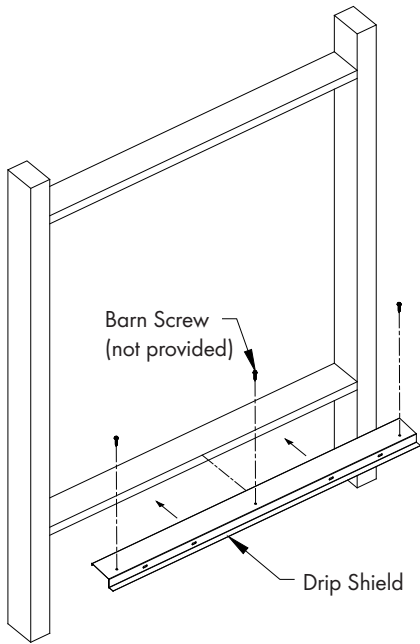

Figure 9A
Attach Drip Shield to bottom of framed opening using (3) Barn Screws (Not Provided). See Figure 9A and 9B. If a 4" wall is used a support board must be installed as shown in Figure 9B. Be sure not to deform Drip Shield when installing screws.